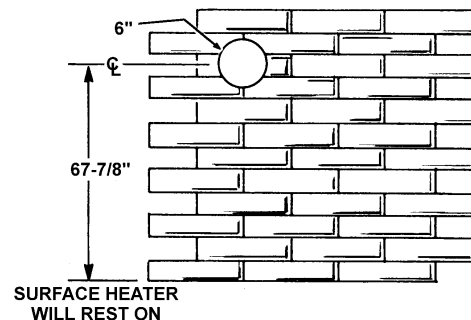

FIGURE 5
1. Cut a clearance hole, (BEWARE OF CONCEALED WIRING AND PIPING INSIDE OF WALL), approximately 6 inches in diameter, through the exterior wall for the 5 inches diameter air tube. See figure 5.